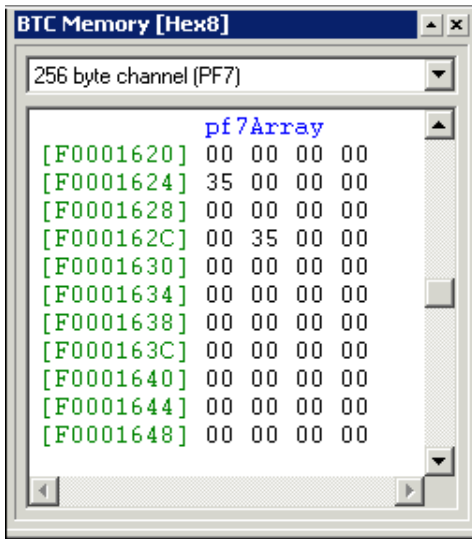
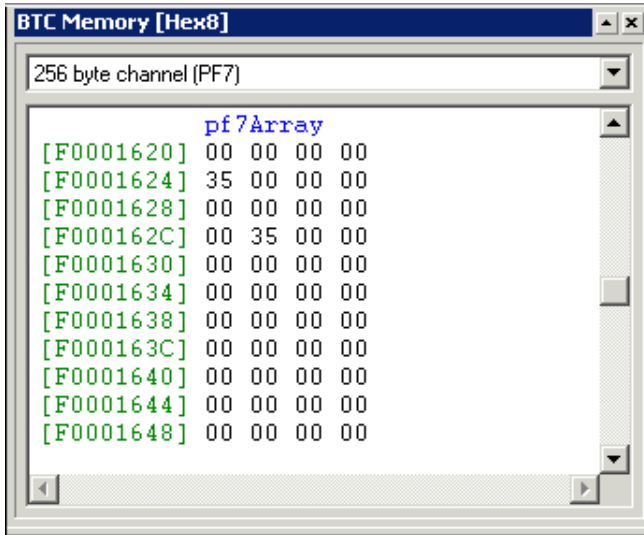
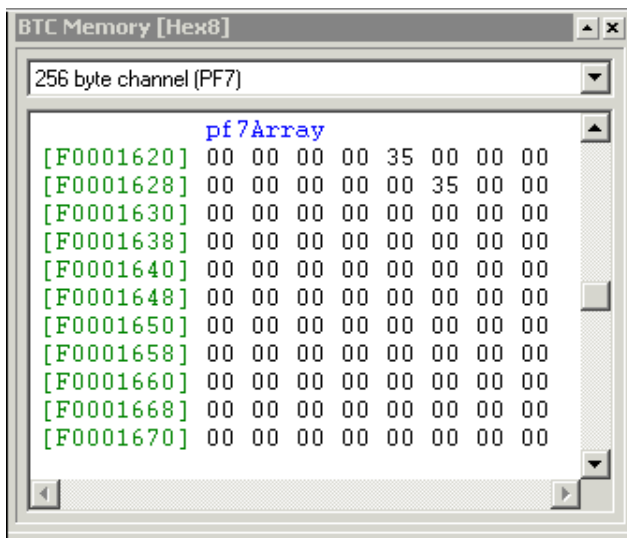

Figure 3-21. Original Window Width
Figure 3-22. Expanded Window with Lock Columns Enabled
Figure 3-23. Expanded Window with Lock Columns Disabled
- If this option is enabled, the number of columns does not change, regardless of the window's width. For example, if four columns are displayed when the option is enabled, four columns are displayed, regardless of the window's width. See Figure 3-21, Figure 3-22, and Figure 3-23 for comparisons.
Figure 3-21 shows the original window.
Figure 3-22 shows the original window expanded with **Lock Columns** enabled.
Figure 3-23 shows the original window expanded with **Lock Columns** disabled.